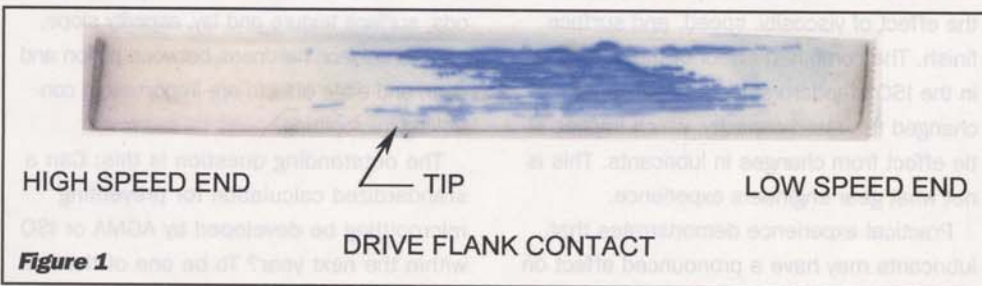

Figure 1
- Carefully lift off the tape and then apply it to a piece of white paper. Make sure to document the results with the date, equipment ID, mesh location, and orientation of the tooth. Figure 1 is an example tape impression showing the contact of a ground gear set with a slight amount of misalignment and full circular crowning on the mating pinion.